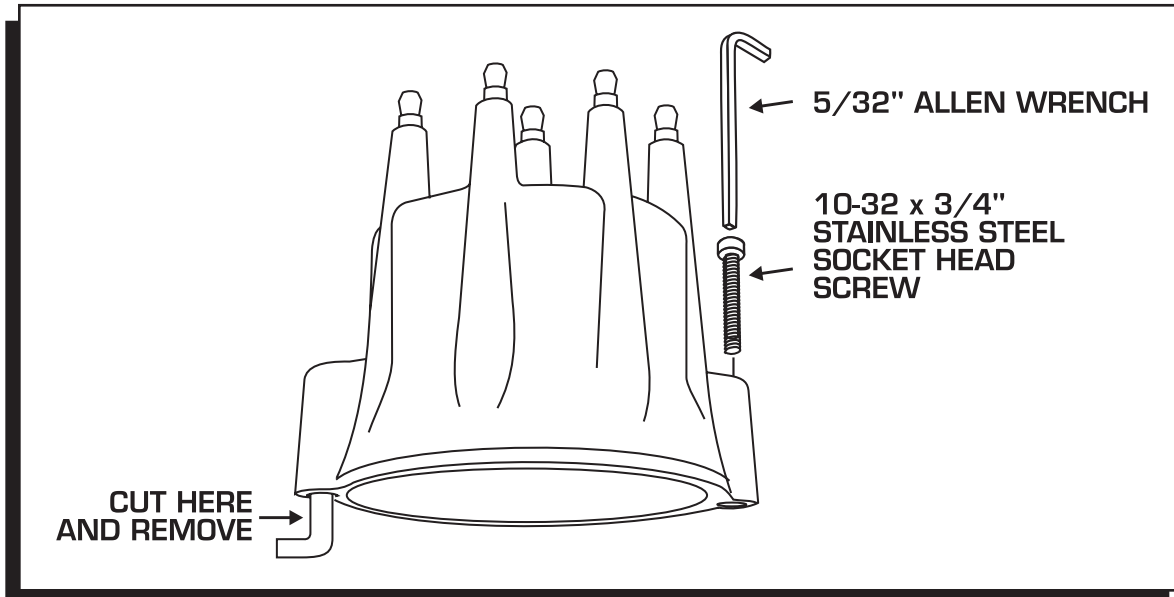

Figure 2 Optional Installation by Bolting the Cap Down.
**Installation Option:** This Cap can also be bolted down to an MSD Pro-Billet or Billet Distributor base with the supplied hardware. To accomplish this, the spring clips must be cut off (Figure 2).